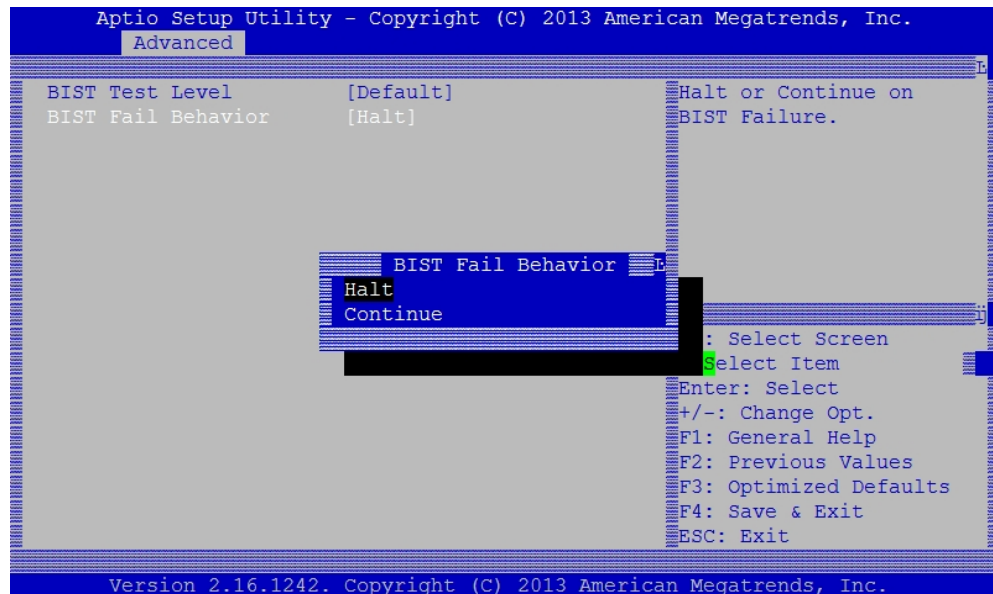

Figure 7-17: Selecting BIST Fail *Halt* or *Continue* option
3. At the BIT Fail Behavior options pop-up (Figure 7-17 below), select *Halt* to stop the BIST process, or *Continue* to continue booting if BIST detects any errors during BIST execution at POST time.